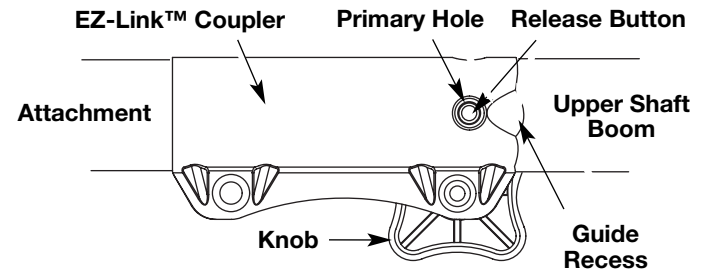
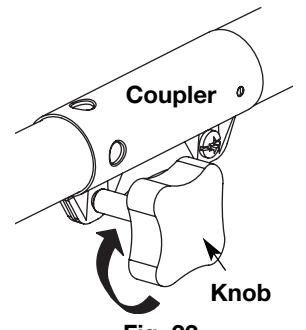

Fig. 21
Fig. 22
3. While firmly holding the attachment, push it straight into the coupler until the release button (Fig. 21) snaps into the primary hole (Fig. 21). The primary hole is on the opposite side of the coupler from the knob (Fig. 21). Align the release button with the Guide Recess (Fig. 21) to help installation.
4. Turn the knob clockwise to tighten (Fig. 22).
3. Press and hold the release button (Fig. 21).
4. While firmly holding the upper shaft boom (Fig. 21), pull the attachment out of the coupler.
CAUTION: Before operating this unit, be sure that the release button is fully snapped into the primary hole (Fig. 21), and that the knob (Fig. 22) is securely tightened.